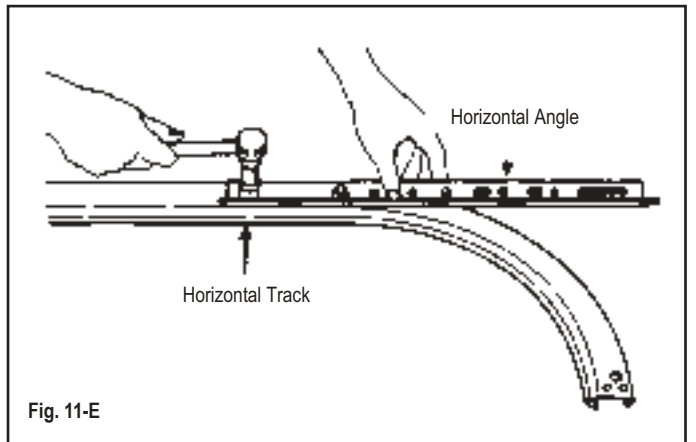

Fig. 11-E
- Temporarily support rear end of track with a rope tied to trusses overhead in garage or resting on tall ladder (Fig. 11-F).
- Attach track to flag bracket using (2) 1/4" × 5/8" track bolts and (2) 1/4" flange nuts. Head of bolt faces inside track.